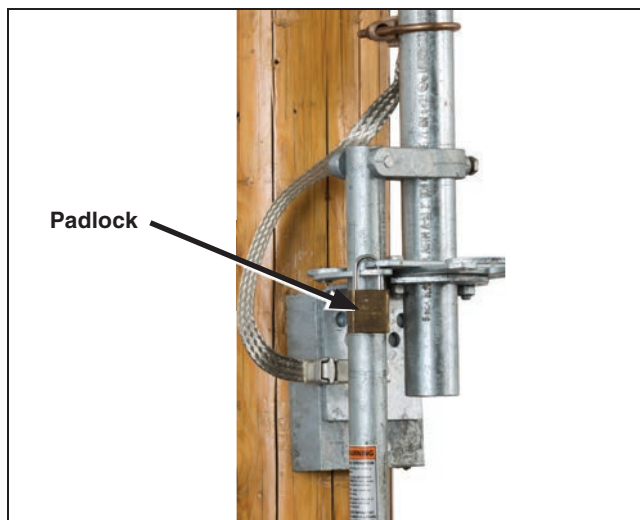

Figure 52. Remove the padlock(s).
**STEP 45.** To operate the Alduti-Rupter Switch: Remove the padlock(s) from the hasps on the operating-handle assembly. See Figure 52.